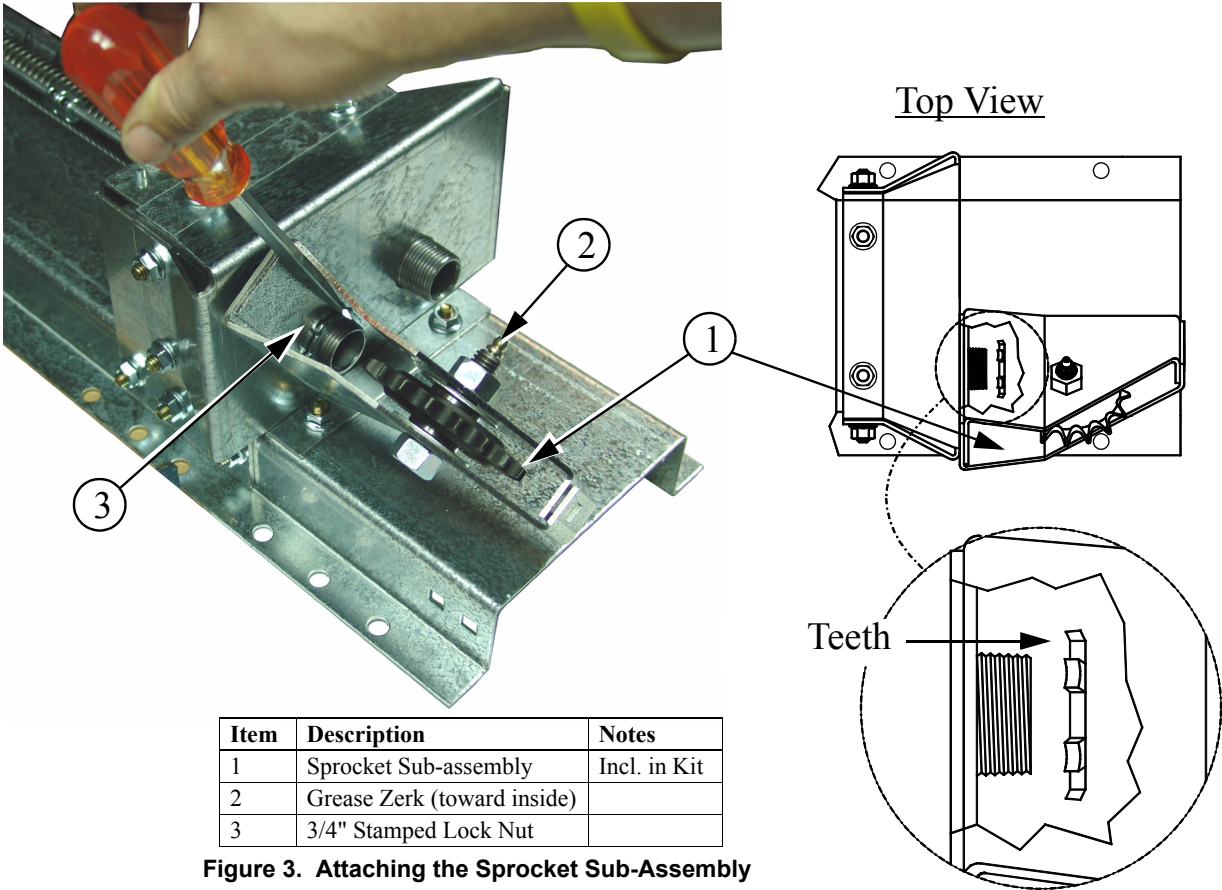
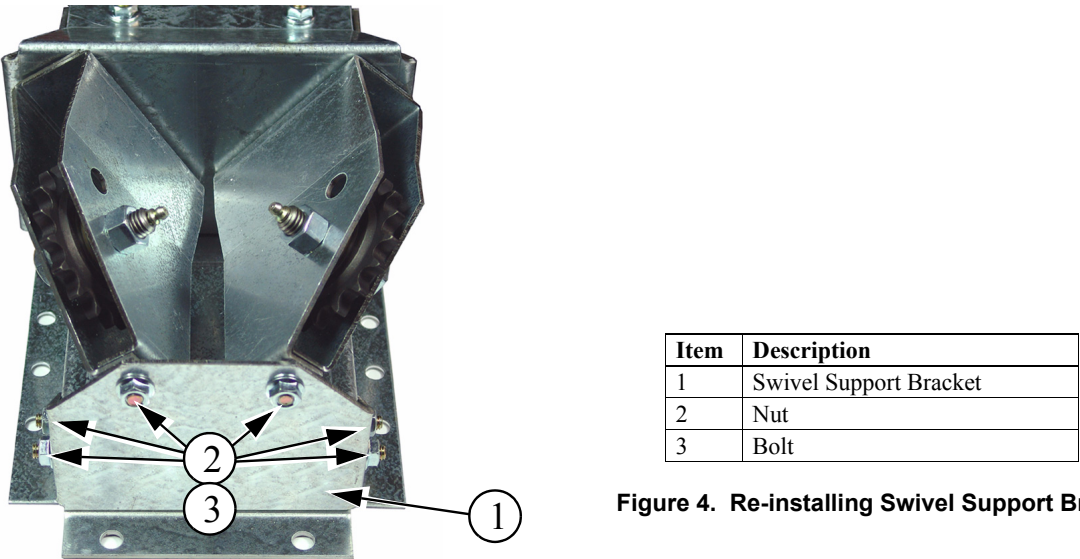

Figure 3. Attaching the Sprocket Sub-Assembly
Figure 4. Re-installing Swivel Support Bracket
5. Replace the Pulley Sub-assembly with the Sprocket Sub-assembly (**Item 1, Figure 3**). Make sure that the Grease Zerk (**Item 2**) is toward the inside **as shown**. Tighten down the 3/4" Stamped Lock Nut with a Hammer and Screw Driver (or Punch). Make sure that the Teeth on the 3/4" Stamped Lock Nuts are toward the Sprocket Sub-assembly as shown in the Detail in **Figure 3**. Repeat the same for the second Pulley Sub-assembly making sure that the Grease Zerk is to the inside (**See Figure 4**).
6. Re-install the Swivel Support Bracket (**Item 1, Figure 4**) using the Nuts and Bolts (**Items 2, and 3**) removed in Step 3.